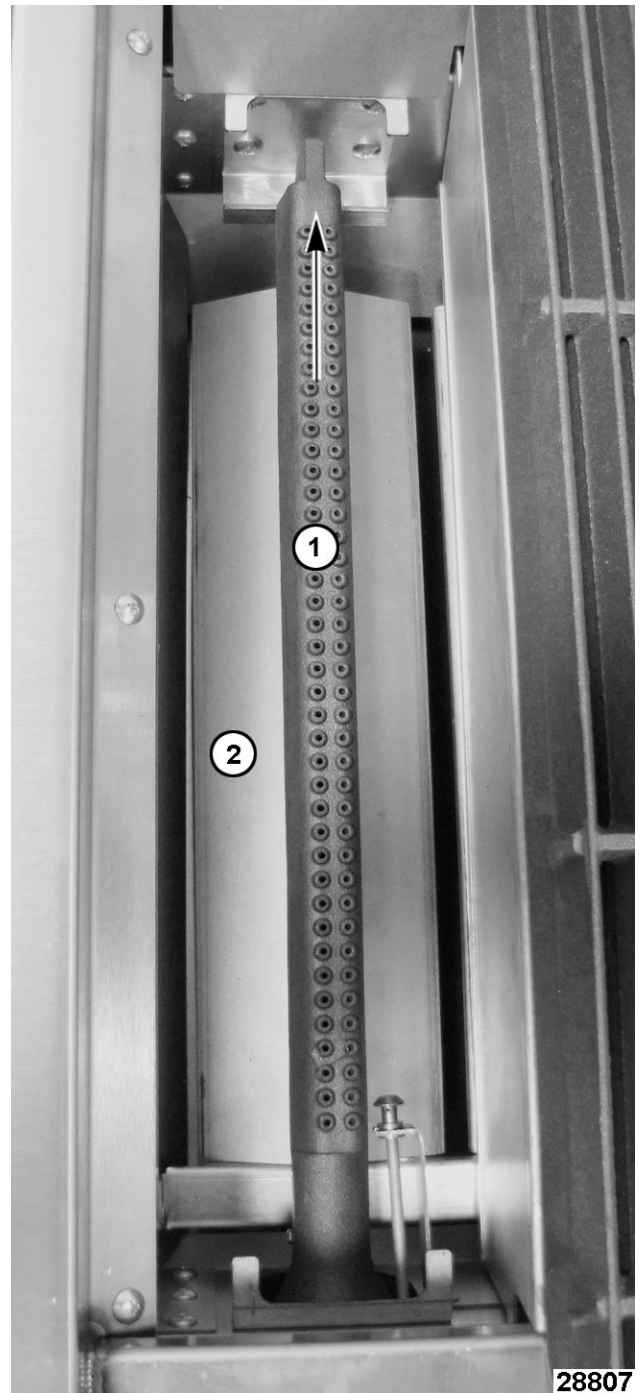

Fig. 71
4. Remove burner (1, Fig. 71) and deflector (2, Fig. 71) by lifting at the rear of burner.